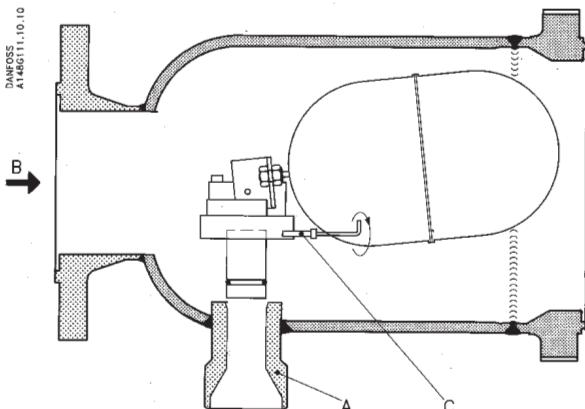

Fig. 1
Mount the float valve horizontally with the outlet branch pos. A (fig. 1) vertically down-wards.
The flow direction has to be from the flanged inlet as indicated with the arrow pos. B (fig. 1).
- Unscrew the screw pos. C (fig. 1) and lift up the float assembly from the outlet.
NB! When demand is heavy at low temperature operation, we recommend to check the velocity in the outlet branch. If necessary the diameter of the pipe which is welded on to the outlet branch pos. A (fig. 1) can be increased.